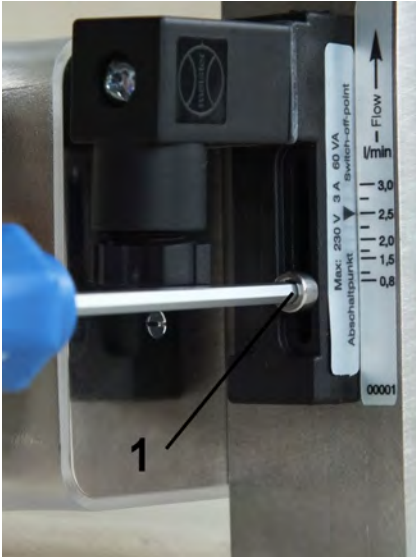

Fig. 34: Loosen set screw
1. ➤ Loosen the switch contact set screw (Fig. 34/1) using a hex screwdriver.
3. ➤ Re-tighten the switch contact set screw (Fig. 34/1) using a hex screwdriver. Observe the correct tightening torque..